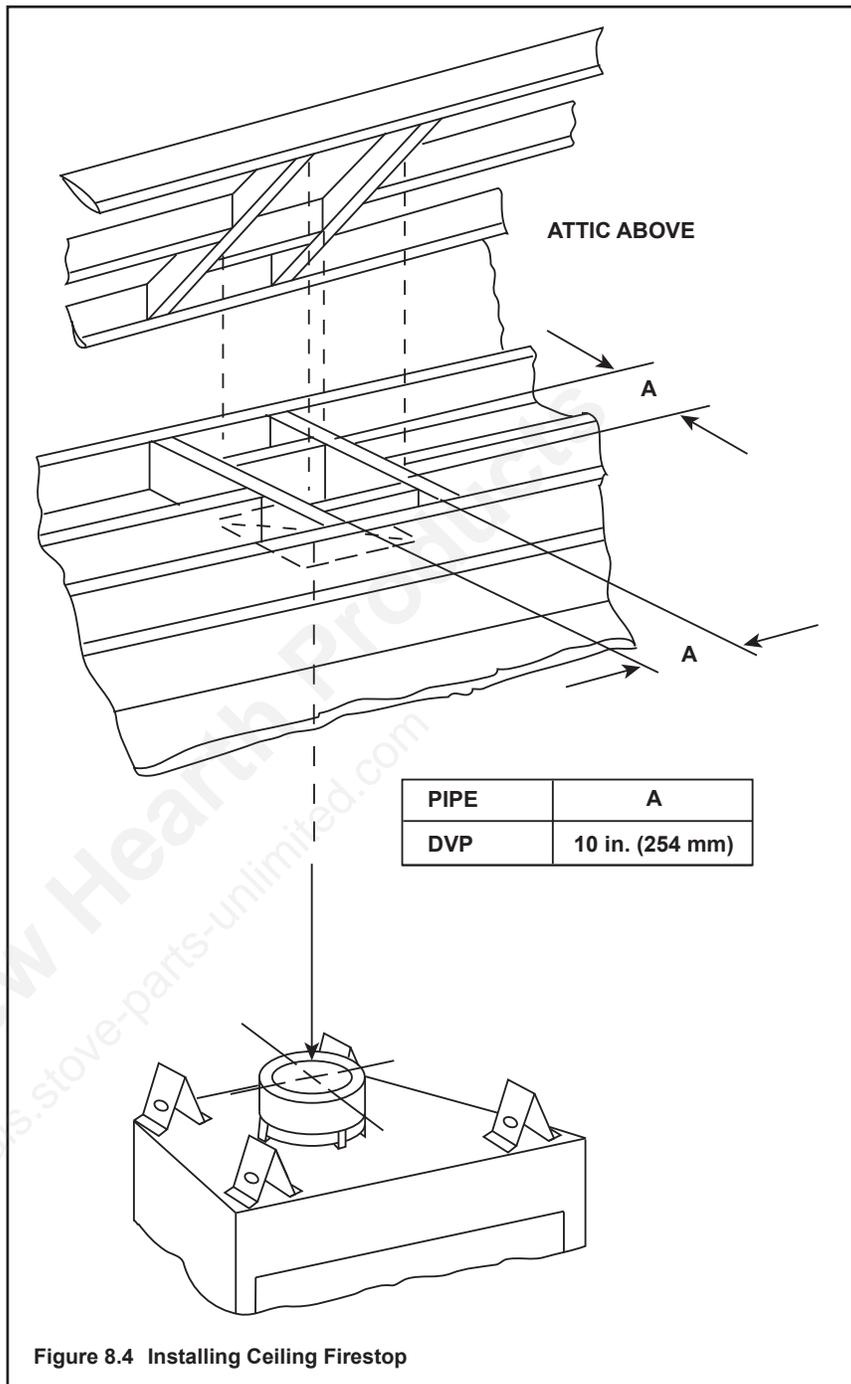

Figure 8.4 Installing Ceiling Firestop
- **DVP pipe only** - Frame an opening 10 in. by 10 in. (254 mm by 254 mm) whenever the vent penetrates a ceiling/floor (see Figure 8.4).